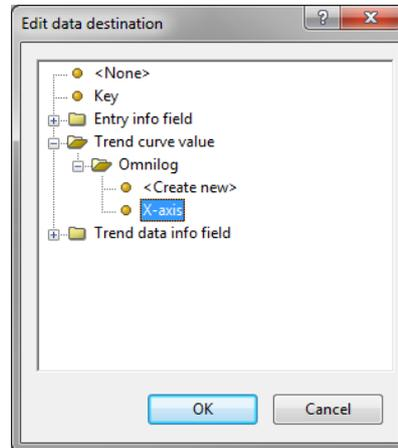

Figure 5: The *Edit data destination* dialog box.
6. Select the *Hour* row in the list and click *<Edit destination>*. Select "X-axis" as the BioNumerics destination field under *Trend curve value > Omnilog* in the *Edit data destination* dialog box and press *<OK>* (see Figure 5).